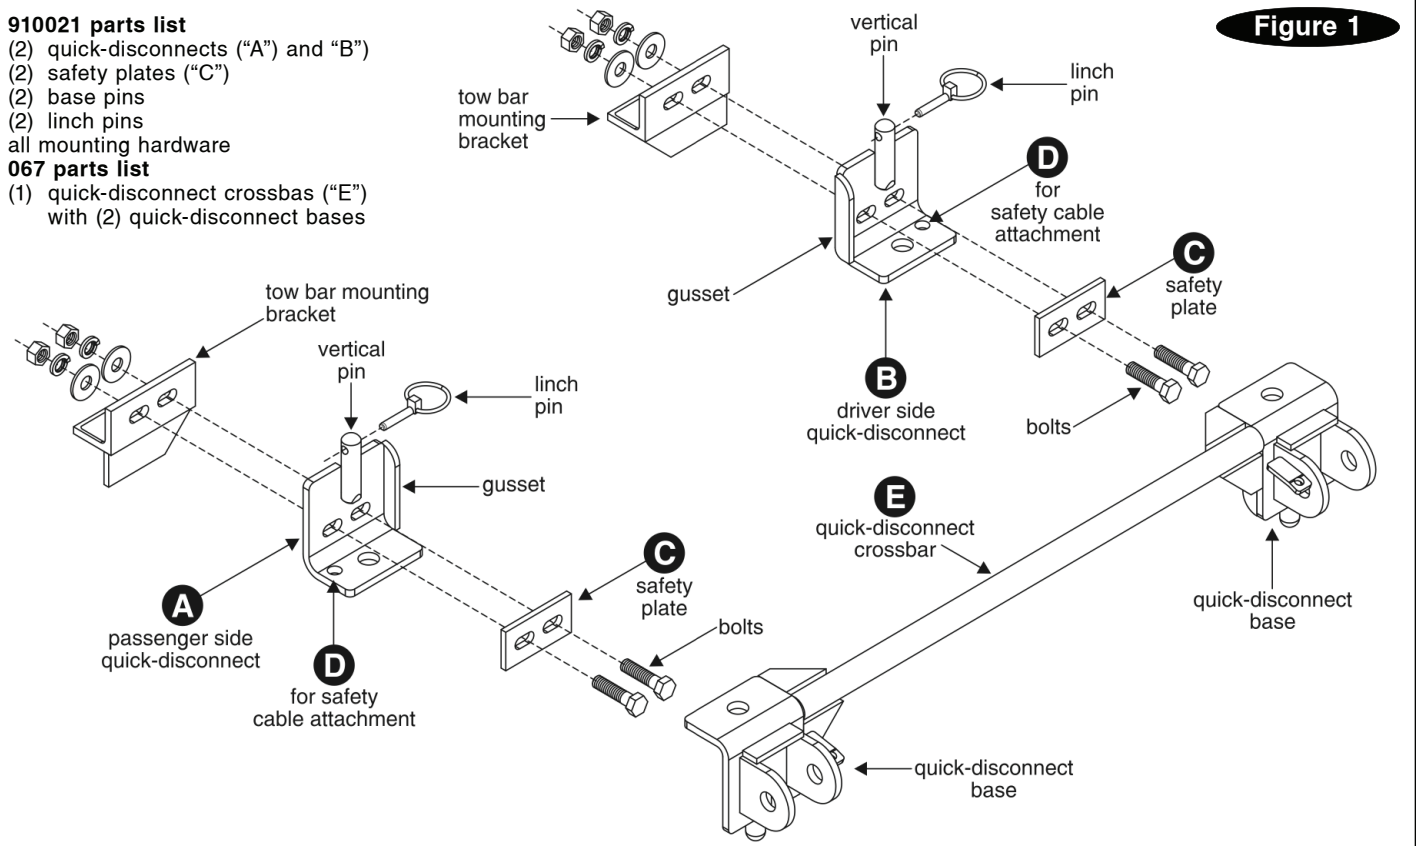

Figure 1
1. See Figure 1 – attach the quick-disconnects (“QDs”, parts “A” and “B”) to the tow bar mounting brackets so that the vertical pin on each is pointing up, with the gusset to the inside.